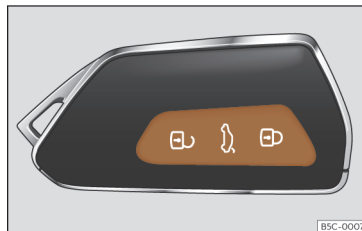

Fig. 76 Remote control key: buttons.
- Lock: press the  >>> **Fig. 76** button.